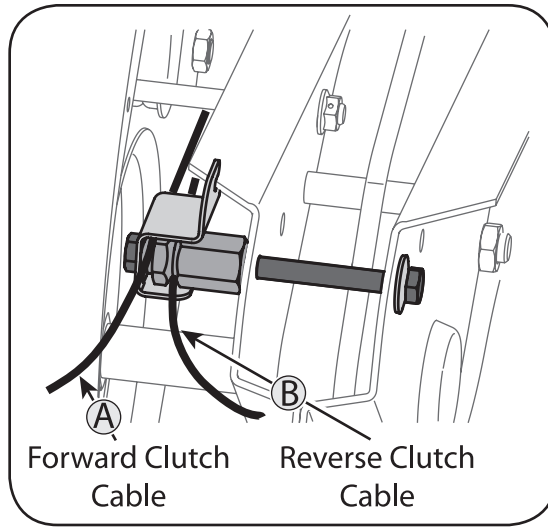

Figure 3-1: Identify Cables.
1. Identify forward clutch cable (A) and reverse clutch cables (B). Figure 3-1.